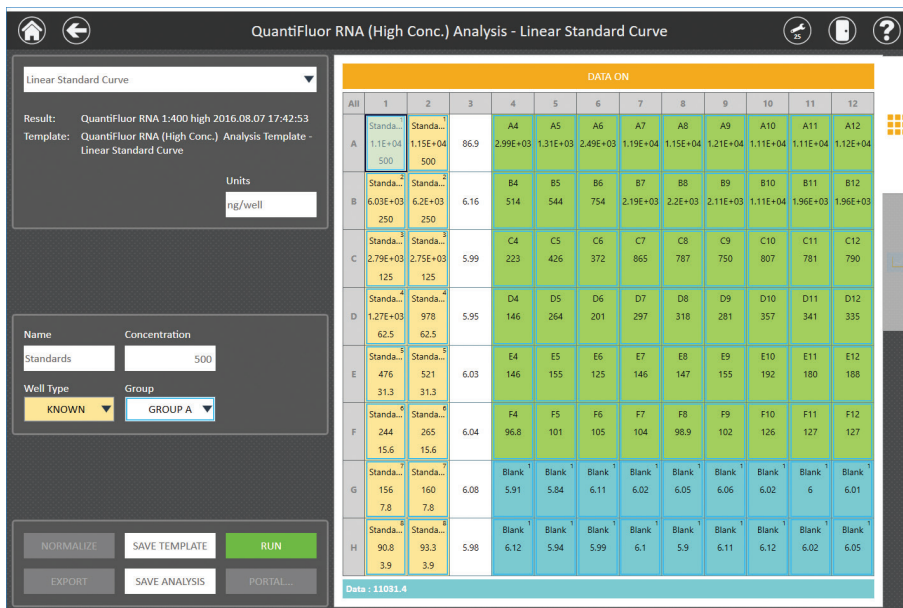

Figure 69. Analysis screen displaying the Portal button.
1. After running the analysis and assessing your data, press the **Portal...** button to open the 'Portal Data Export' screen (Figure 69).